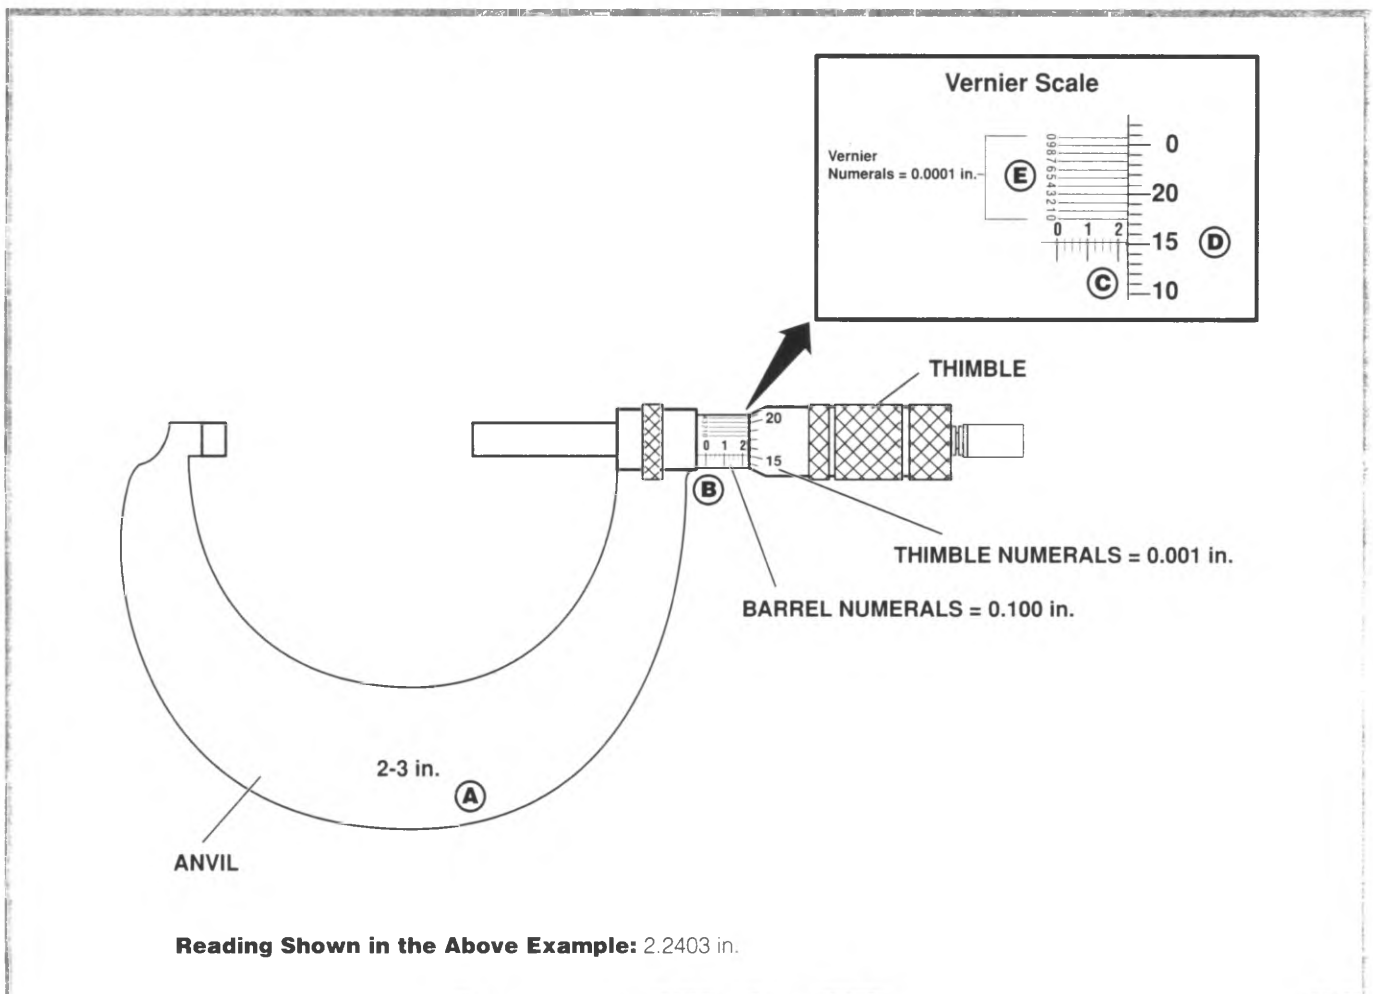

Figure 6-15, Using a Micrometer
1. Figure 6-15 illustrates a 2-3 inch micrometer. All readings will fall between two and three inches (see A).